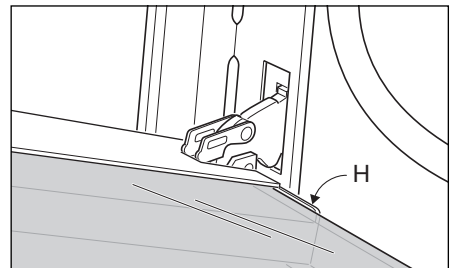

Fig.24c
- Insert the pane in the left "E" and right "F" slide guides, and gently slide it to the retainers "H" (Fig. 24c)